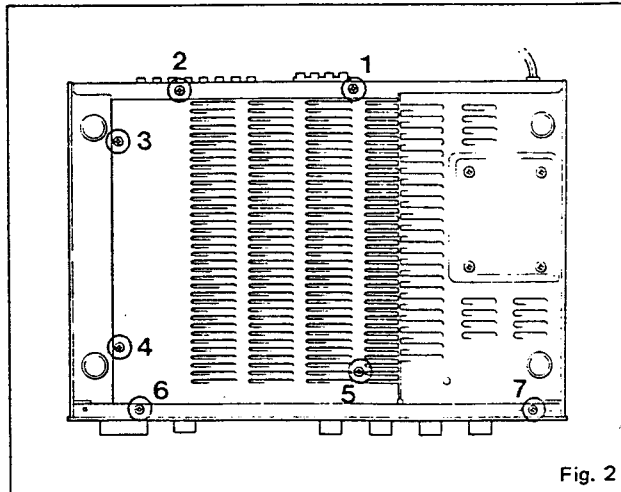
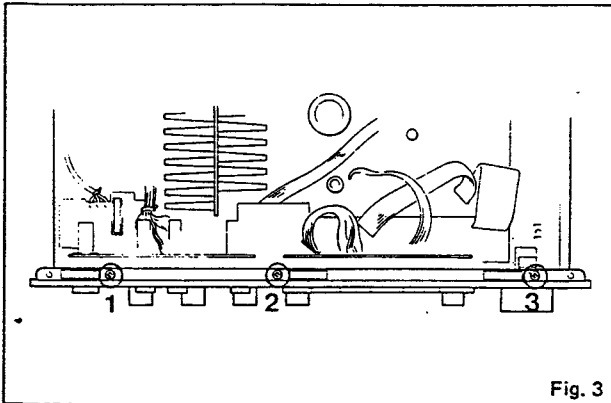

Fig. 2
Fig. 3
Remove screws ① through ⑤ in Fig. 2 and then remove the bottom cover.
- b) Remove screws ⑥ and ⑦ in Fig. 2 and screws ① through ③ in Fig. 3 and then remove the front panel.